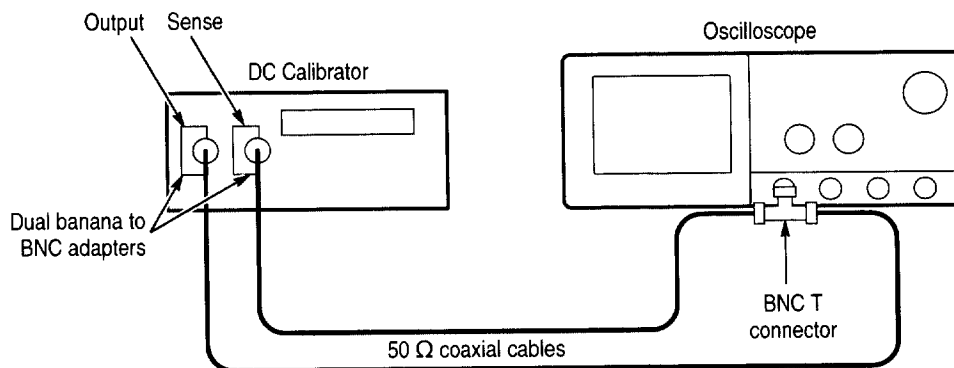

Figure 1–5: Initial test hookup
- Connect the output of a DC calibration generator through a dual-banana connector followed by a 50 Ω precision coaxial cable to one side of a BNC T connector. See Figure 1–5.
- Connect the Sense output of the generator through a second dual-banana connector followed by a 50 Ω precision coaxial cable to the other side of the BNC T connector. Now connect the BNC T connector to **CH 1**. See Figure 1–5.